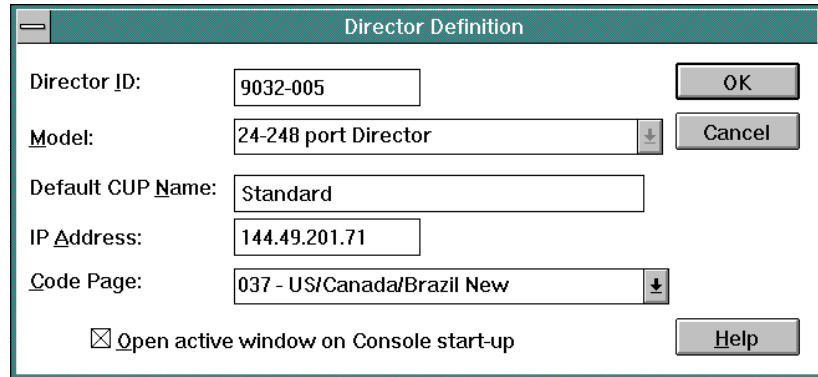

Figure 10-16. Director Definition Dialog Box
9. Highlight the appropriate Director name (the same Director name selected in step 3) with the up or down arrow keys or the mouse, and click the *Modify Definition* button. The *Director Definition* dialog box for the selected Director appears (Figure 10-16).